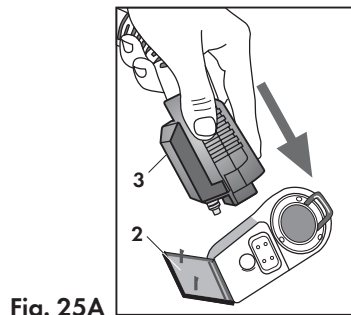

Fig. 25A
To use the iron, install the iron connection (3) to the accessory socket (Fig. 25A). Follow the same procedure used for attaching the hose. Refer to "Fitting the hose" on page 8 (Fig. 8).